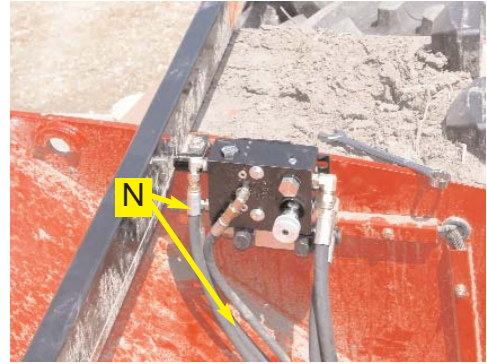

Figure 7a. Installed steering hoses at the automated steering block.
a. Connect the steering output hoses (N) from the **A** and **B** ports on the automated steering block to the branches on the steering cylinder run tees. (Figure 7a. and 7b.)